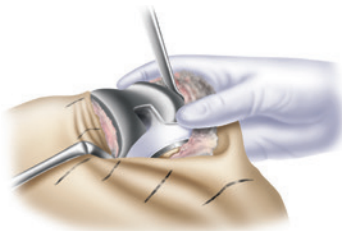

Figure 67
- 2 Placing your thumb on the anterior of the insert to hold it on the baseplate (Figure 67), move the knee into extension.